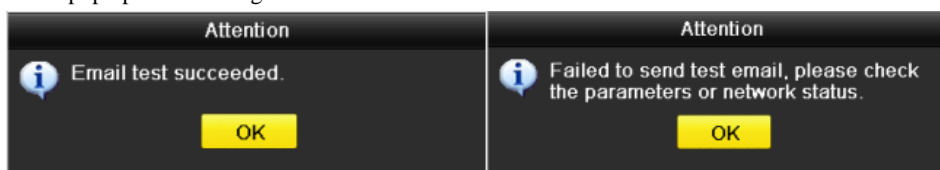

Figure 9. 22 Email Testing Attention
7. You can click **Test** button to test whether your Email settings work. The corresponding Attention message box will pop up. Refer to Figure 9. 22.